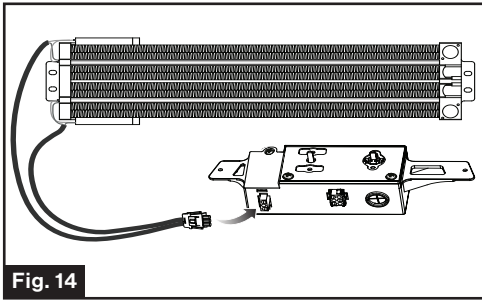

Fig. 14
18. Plug the 3-pin connector of the heat strip into the 3-pin terminal interface on the control box. (Fig. 14)